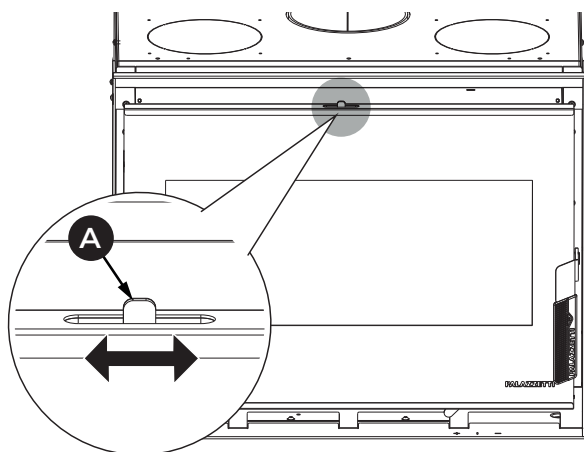

Fig. 9.2
Combustion is adjusted using the air regulator (A) (Fig. 9.2). Turning it toward the symbols (+) or (-) a higher or lower flow of combustion air will be obtained and consequently a faster or slower combustion will result.
During operation, it is possible to facilitate the cleaning of the ceramic glass by means of the adjustment lever (A) (Fig. 9.2) without having to open the door.